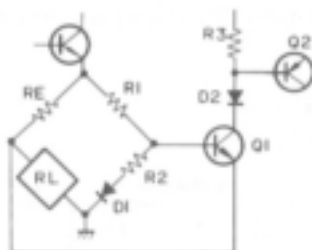

Fig. 10 Overload detector
The overload detector circuit incorporates the load (RL) in one side of a Wheatstone bridge (see Fig. 10). The base and emitter of a sensing transistor (Q_1) are connected to the opposite corners of the bridge, so if RL decreases, Q_1 will become forward biased. If RL falls below a prescribed value, will turn on, thereby passing a current through R_3 and D_2 . Due to the voltage difference generated across R_3 , Q_2 will become forward biased, and consequently turn on. Q_3 base potential rises and Q_3 turns on. C_1 will rapidly discharge. As consequence, Q_4 will turn on and the relay will become de-energized, thus causing the output circuit to open.